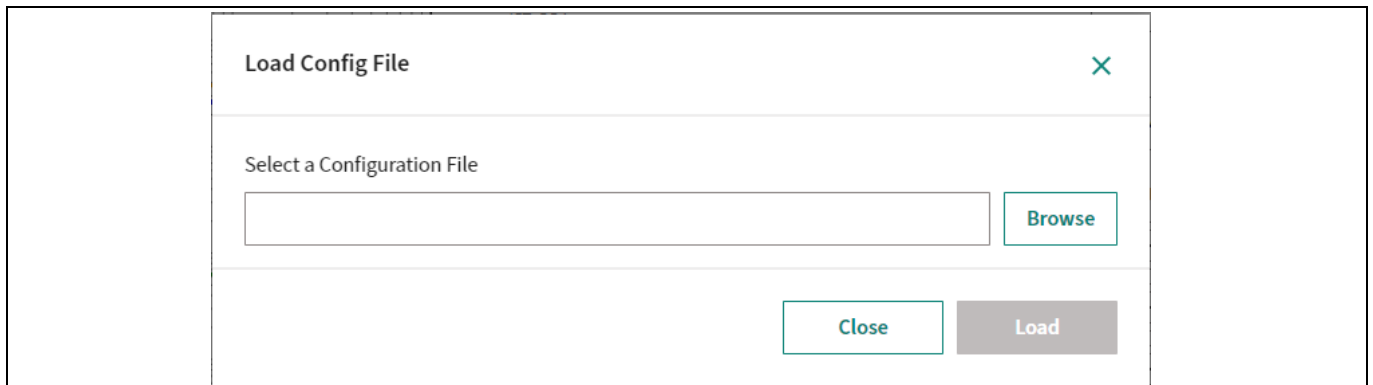

Figure 17 Browse to select the necessary configuration file
9. Click **Browse** and select the .xdp file that needs to be loaded onto the device, as shown in Figure 17